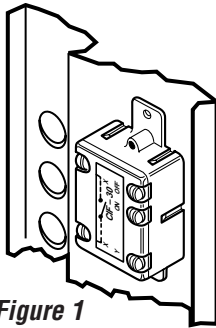

Figure 1
Step 1. Use mounting strap to secure CIF-30. The module may be installed in a standard utility box, relay cabinet or other technique conforming to local code requirements. Mount near the SPST contacts. See Figure 1 and 2.